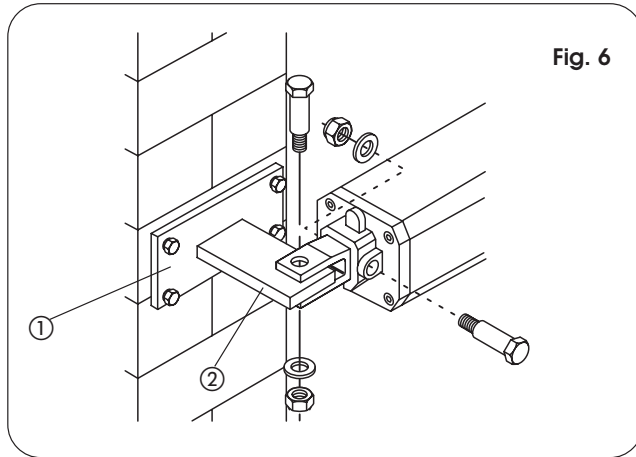

Fig. 6
- For iron pilasters, accurately weld the rear attachment (ref. ②, Fig. 6) directly on the pilaster.
- B) secure, with screws and expansion plugs, the rear attachment plate (ref. a, Fig.6) to the pilaster and then accurately weld the rear attachment to the plate as shown in Fig. 6.
- 2) Secure the operator to the rear attachment with the supplied screws (Fig. 6).